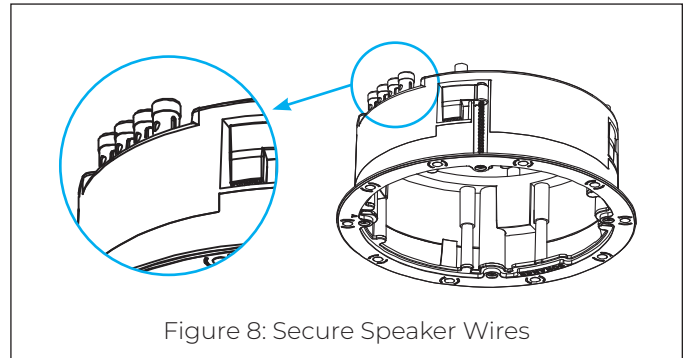

Figure 8: Secure Speaker Wires
4. Secure the speaker wires to the speaker frame using the spring loaded connector posts (see Figure 8).